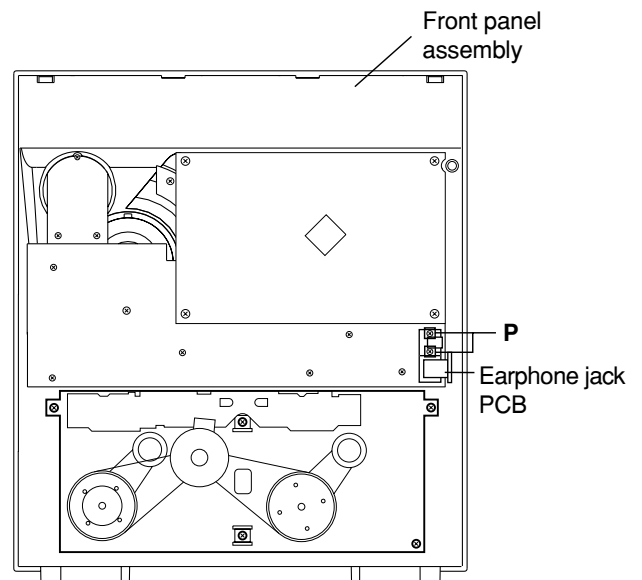

Fig.22
■ Removing the earphone jack PCB and Mic Jack PCB (See Fig.22)
4. Remove eleven screws **R** retaining the switch (key 1) PCB. (Fig.22)
5. Remove three screws **S** retaining the sound mode (key 2) switch PCB.
6. Remove two screws **T** retaining the CD function (key 3) switch PCB.